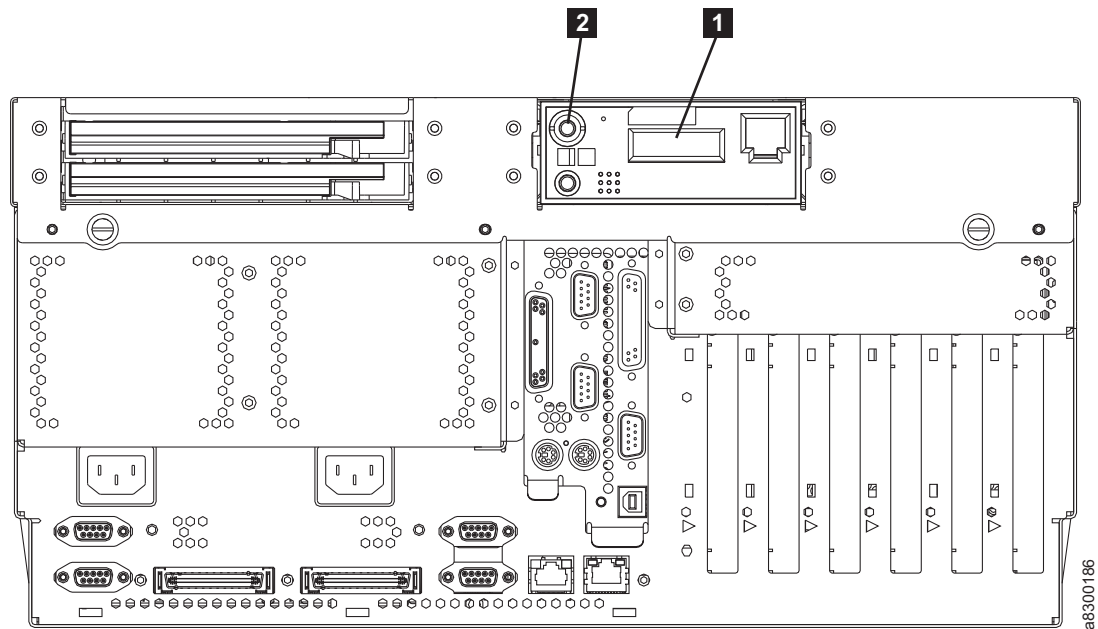

Figure 15: Rear view of J70 Controller
2. The controller runs a self-test when power is applied to the frame or rack. When the self-test completes, the controller's display panel (1 in Figure 15 on page 30) displays OK, indicating that the controller is in standby mode.
3. When OK appears in the controller's display panel (1 in Figure 15 on page 30), press the **Power ON/OFF** button (2 in Figure 15 on page 30).
2. Press and hold down **Power ON/OFF** (2 in Figure 15 on page 30) for approximately 2 seconds.
4. The J70 Controller is powered down to standby mode when OK appears in the tape controller's display panel (1 in Figure 15 on page 30).